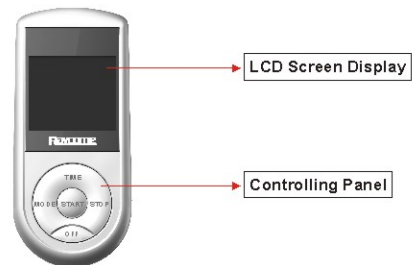

Fig2. Remote Controller
- (2) Remote Controller (see Fig 2)